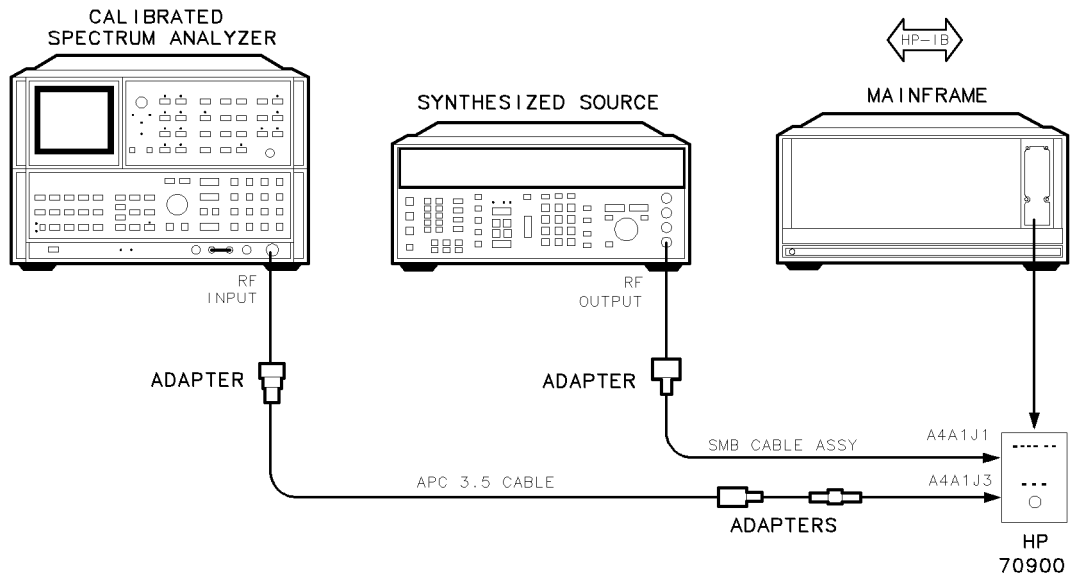

Figure 6-6. Equipment Setup for Adjustment 03. 300 MHz Bandpass Filter
6. Connect the equipment as shown in Figure 6-6. Refer to Figure 6-7 for the location of A4A1 300 MHz amplifier (J1) and (J3).